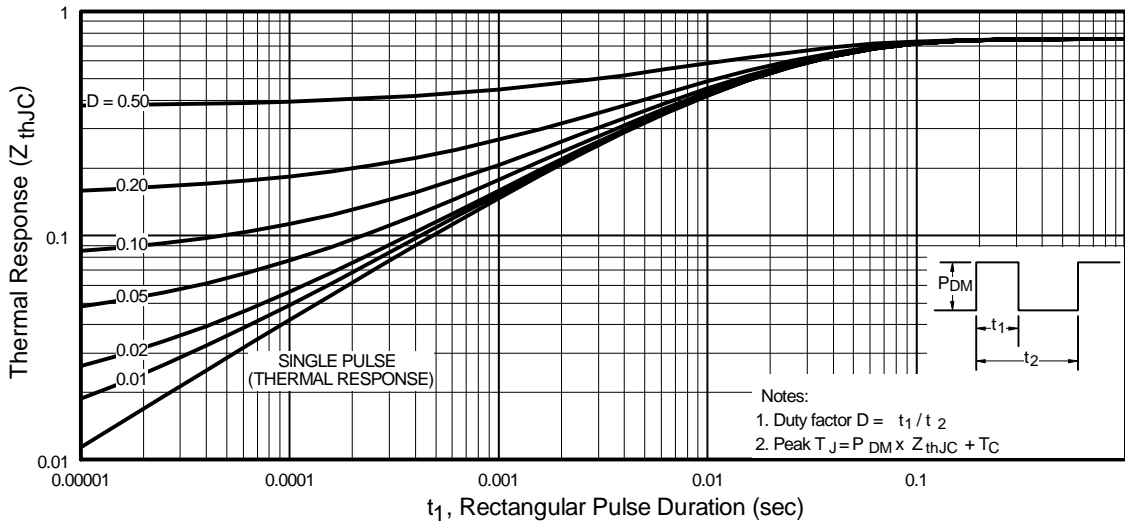

Fig 11. Maximum Effective Transient Thermal Impedance, Junction-to-Case
- ① Repetitive rating; pulse width limited by max. junction temperature. (See fig. 11)
- ② Starting T_J = 25°C, L = 0.23mH